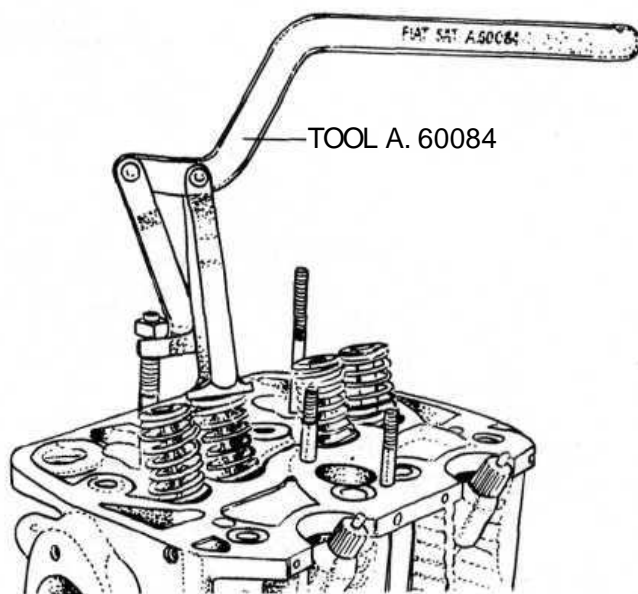

FIG 1 :14 Tool A.60084 for valve and valve spring removal
- 11 Release the four camshaft sprocket retaining bolts and lift away the sprocket and timing chain. Using Fiat puller A.46020 or a large universal two-leg puller as shown in **FIG 1 :10** remove the crankshaft sprocket and its key